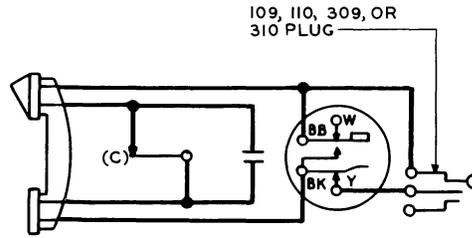

Fig. 10 - Wiring of D-81760, D-81761, and D-81762 Hand Sets (Clips Furnished Instead of Plug on D-81760 and D-81761 Sets)
3.07 Schematics of the circuit arrangement of these hand sets are shown in Figs. 10, 11, and 12.